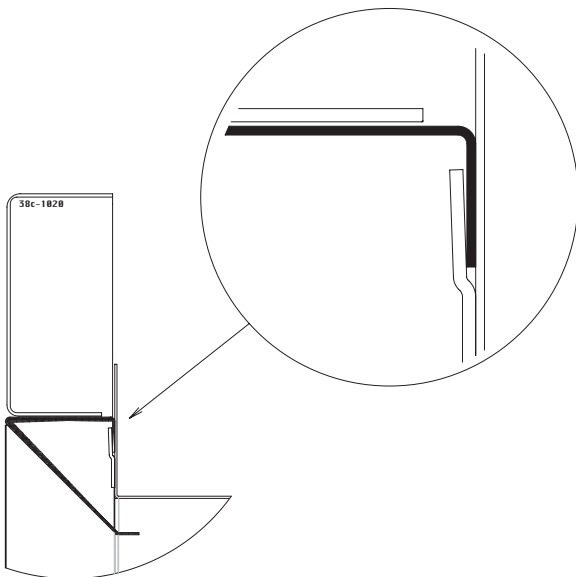

fig. 13
- Hang the fascia behind the lug at the top of the engine as shown in fig 13.